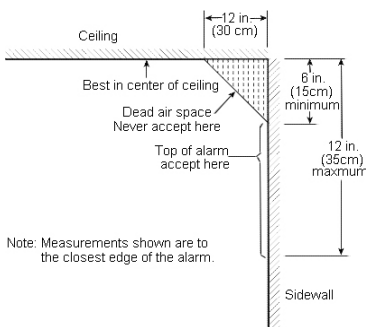

Figure 1
- When mounting your alarms on the ceiling, locate it at a min. 12" (30cm) from the sidewall and 2 feet (60.96cm) from any inside corner. (See Figure 1)
- When mounting your alarms on the wall, please locate them 6"-12" (15-35cm) below the ceiling. (See Figure 1)